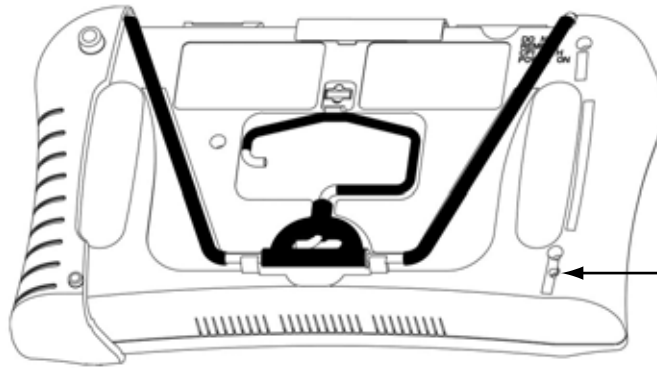

Figure A-1 *Emergency restart button location*
2. Locate the emergency restart button in the lower right corner on the back of the unit (Figure A-1).